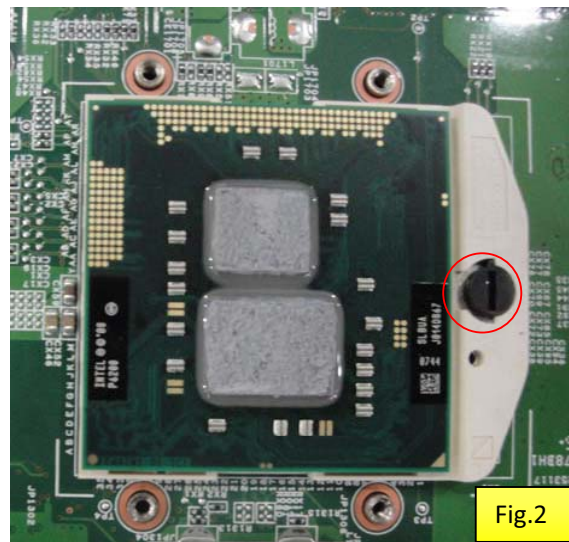

Fig.2
2. Turn the CPU lock 90 degree and get the CPU.(Fig.2)